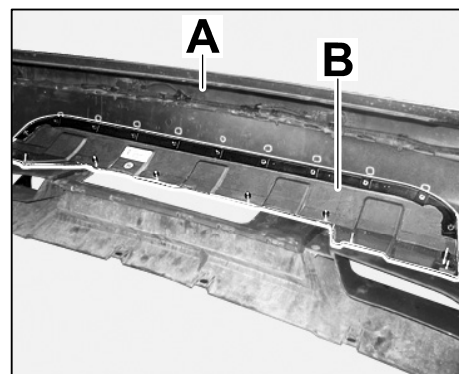

Figure 3
2.1.1 Fit the stainless steel rear trim ⇒ *Figure 3 -B-* on the inside of the rear apron ⇒ *Figure 3 -A-* (installation position).